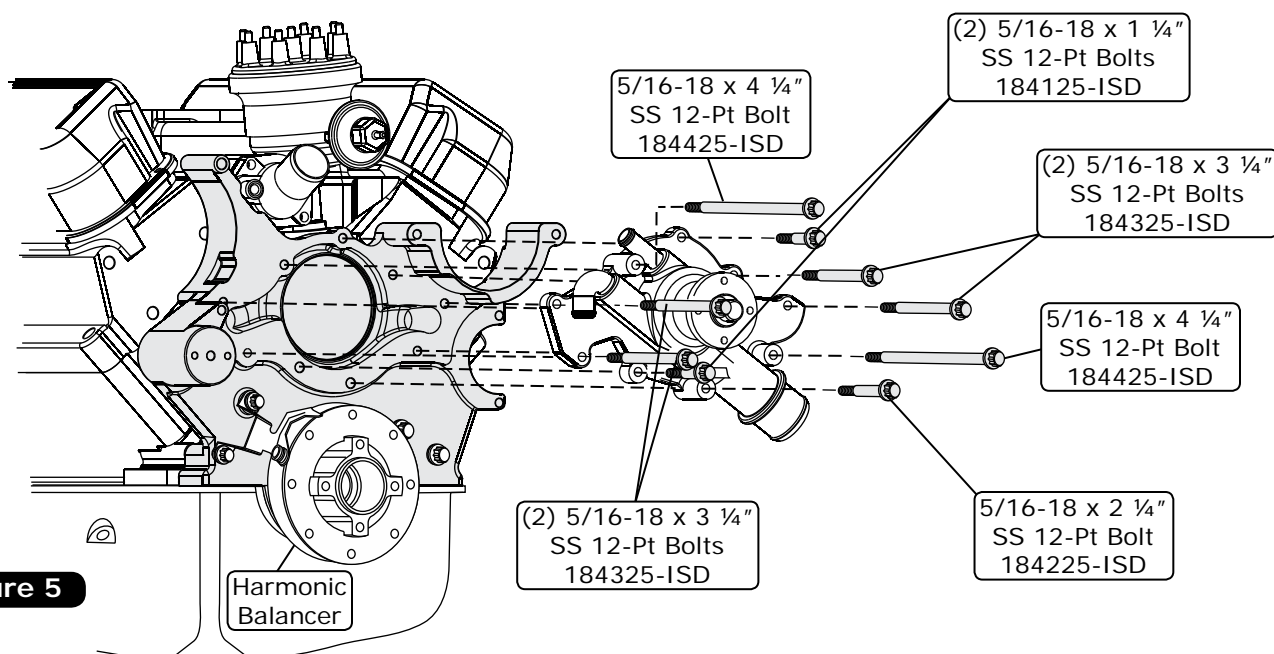

Figure 5
1. Install the water pump as shown in Figure 5, below. **NOTE: Make sure the water pump gasket is aligned properly.** Secure the water pump using bolts as shown in Figure 5, below. Torque to 18 lb ft.